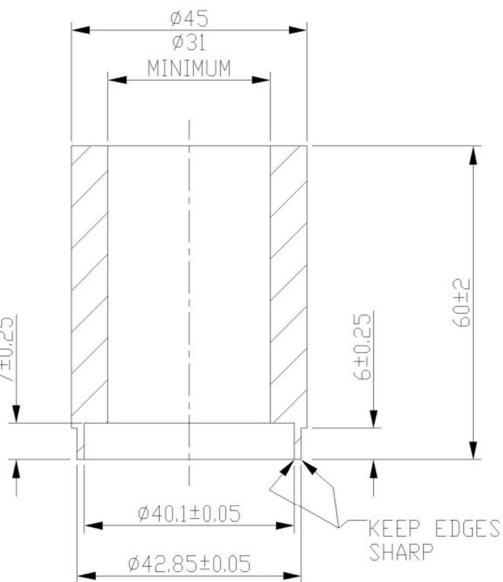
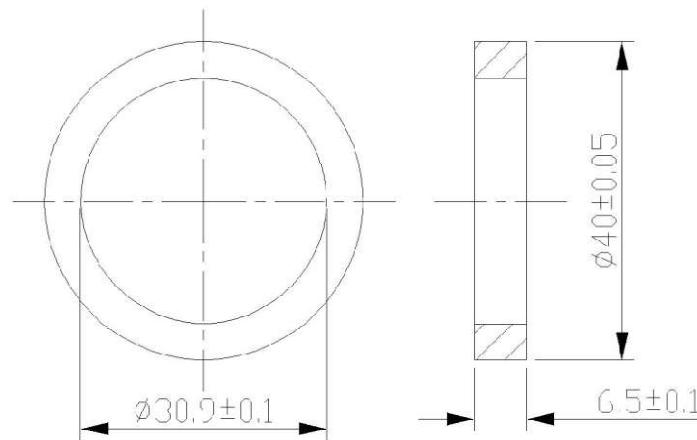

Figure 23 - Sleeve dimension
Figure 26 - L Cup insertion tool
To remove the seal seat from the back of the rotor a special tool is required. This tool needs to be manufactured to the dimensions shown in Figure 23.
- Use a soft sleeve made from Nylon, as shown in Figure 23, and fit it into the end of the tool as shown in Figure 26.